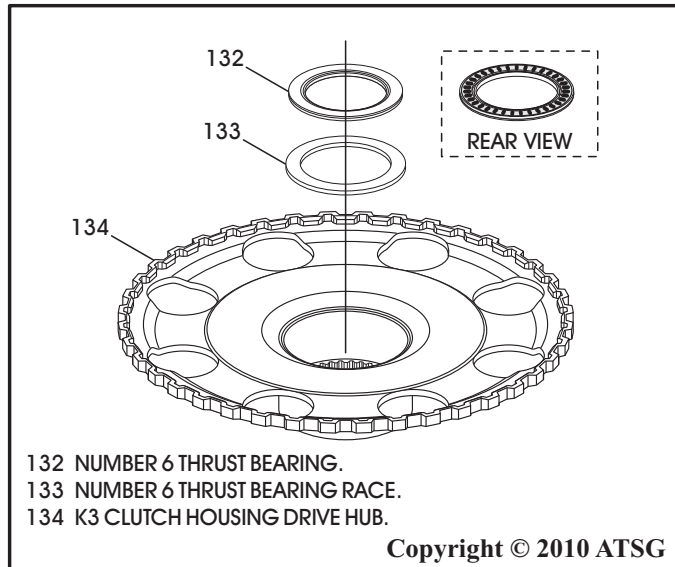

Figure 112
4. Install the number 6 thrust bearing race into the K3 clutch housing drive hub, as shown in Figure 112.
5. Install the number 6 thrust bearing into the K3 clutch housing drive hub with needles facing down, as shown in Figure 112.